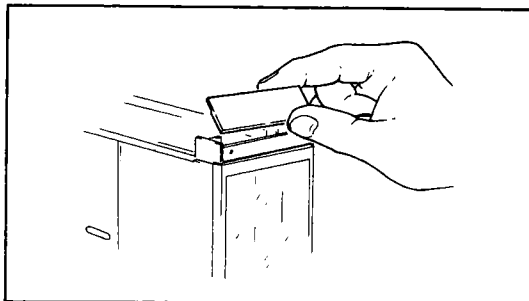

Figure 6-7. Removing the Upper Lid.
- (1) Pull the internal unit out about 5 cm from the housing, and remove the upper lid. The upper lid must be removed by lifting the rear edge as shown in Figure 6-7.